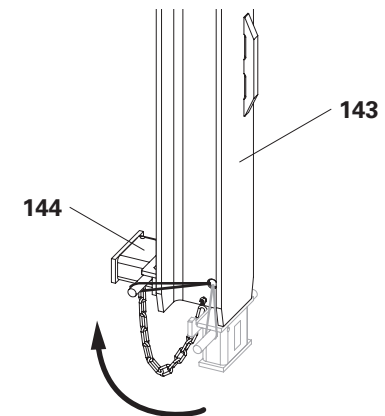

Fig. D2.02
2. Climb the Climbing Rail ACS (143) to the end position.
3. Fold the spacer (144) upwards. (Fig. D2.02)